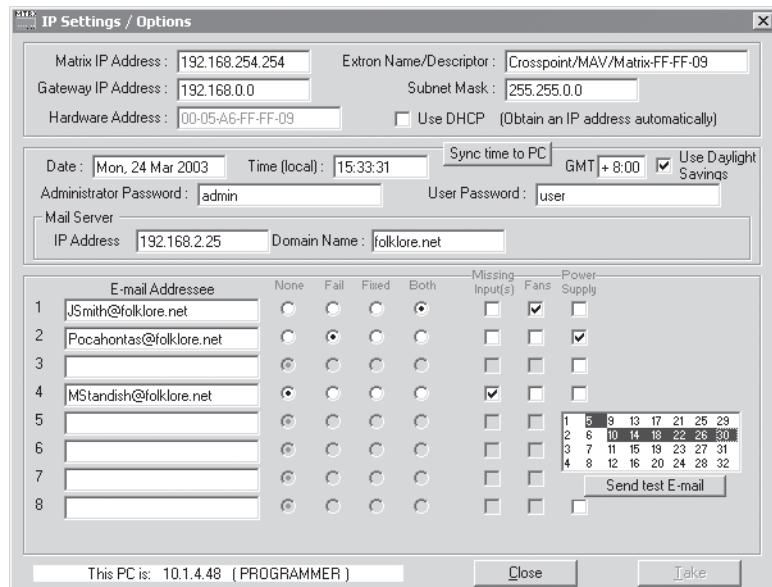

Figure 5-7 — Control program IP setting/options window
The IP Settings/Options screen (figure 5-7 on page 5-7) provides a location for viewing and, if connected via a serial port or if logged on via the Ethernet port as an administrator, editing settings unique to the Ethernet interface. See “IP Settings/Options window” later in this chapter for more details.
- If desired, on the task bar, click on *Tools > IP Options* to set the switcher's IP parameters in the IP Settings/Options window (figure 5-7).
The IP Settings/Options window (figure 5-7) provides a location for viewing and, if connected via either serial port or if logged on via the Ethernet port as an administrator, editing settings unique to the Ethernet interface. See appendix A, "Ethernet Connection", for basic information about IP addresses. None of the fields on this screen can be edited while you are logged on as a user.